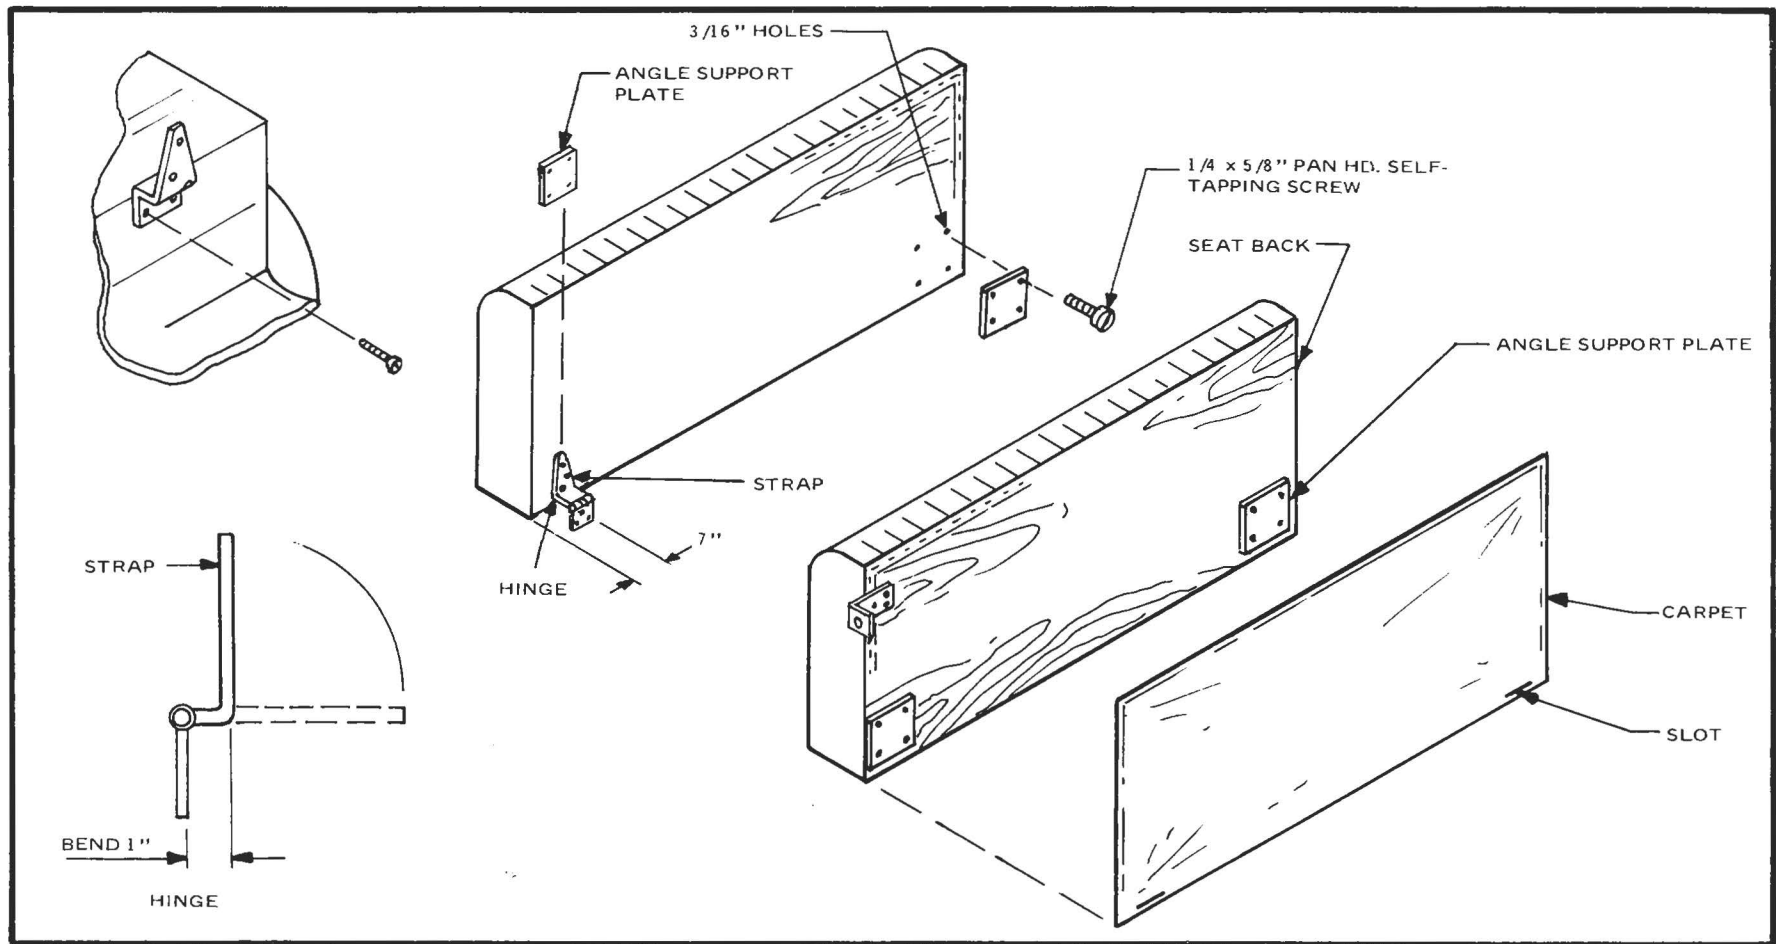

Figure 62
- ☐ With hinge fully closed, mark a line 1" down on the strap from the edge of the pivot pin. Clamp in a vise and bend out at a 90 degree angle. (Fig. 62)
- ☐ Remove seat back. Lay carpet rectangle over back of seat centering it on all sides. Staple along top edge. Apply contact cement or spray glue to metal plates and area of seat back below plate. Lay carpet down over seat and staple remaining edges. With a razor blade or sharp knife cut a slit in carpet along bottom of metal support plates. Trim as necessary to allow easy access. (Figure 62) .